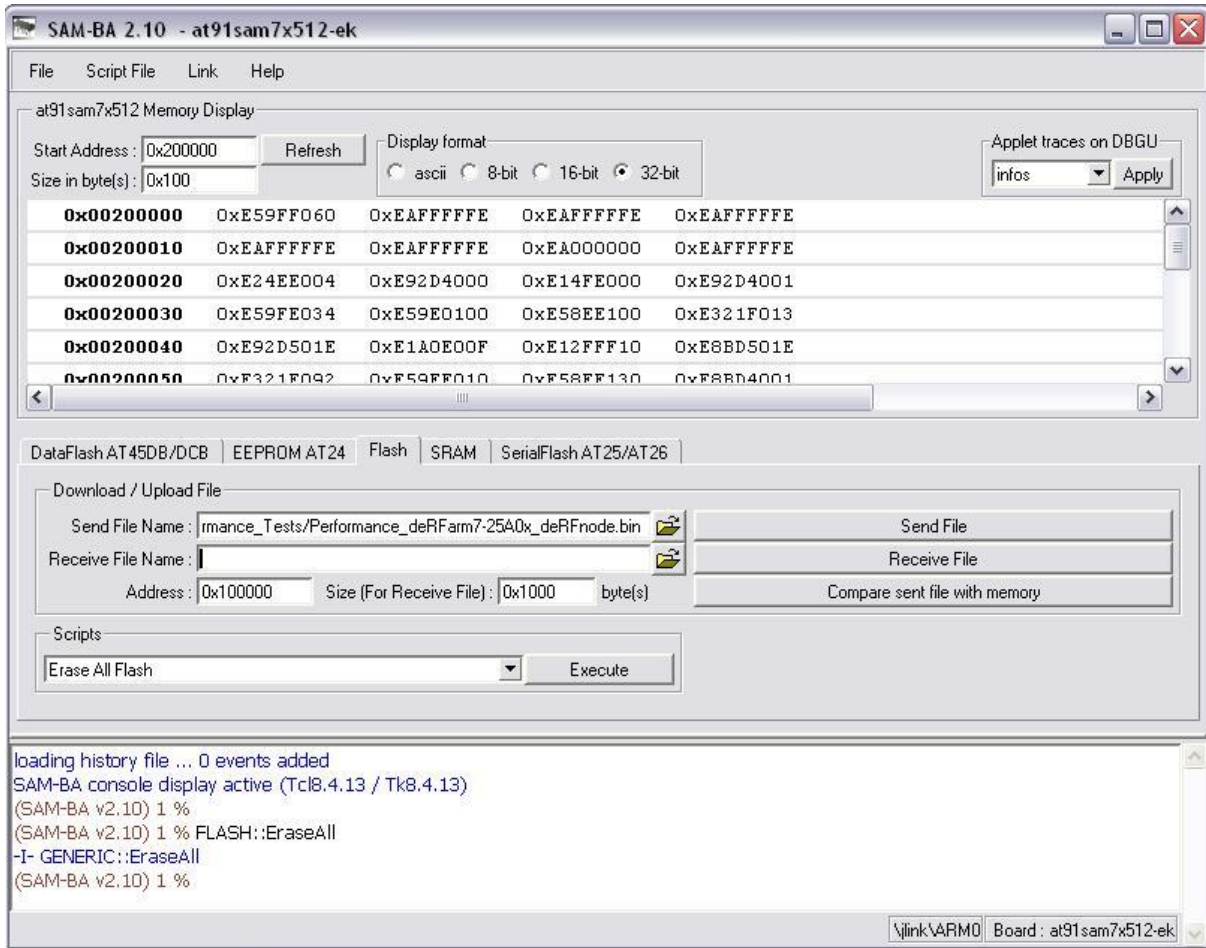

Figure 22: SAM-BA choosing binary
4. After erasing the flash content choose the binary file which must be flash on target MCU. Click on the 'OPEN DIRECTORY' button in the "DOWNLOAD/UPLOAD FILE" section next to 'SEND FILE NAME' (Figure 22). Click on 'SEND FILE' button to flash the binary.